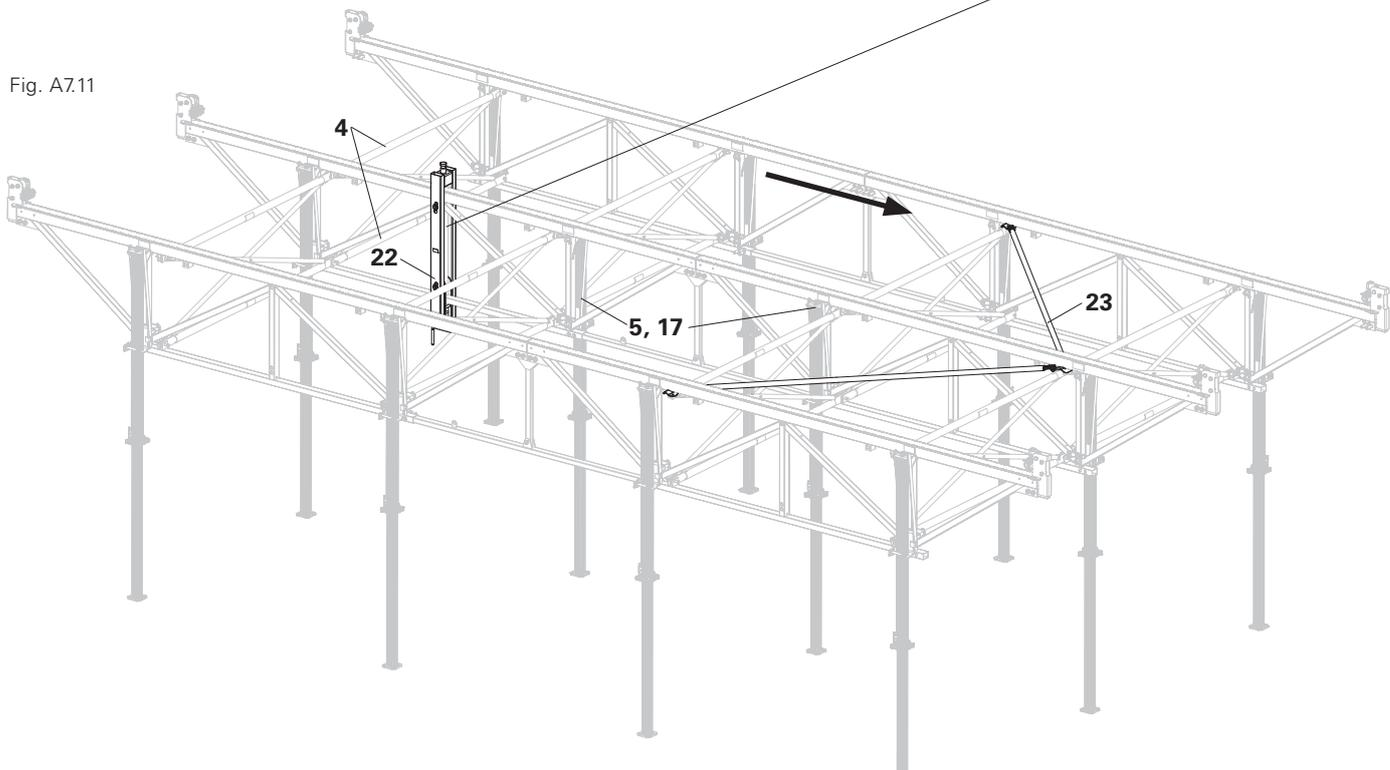

Fig. A7.11
1. Install Horizontal Brace ST (23) additionally and before the Diagonal Brace and Spreader Tube, see below.
2. Install Spreader Tube STST (4) above and below, see A2 Diagonal Brace.
3. Install Lifting Adaptor (22), see Assembly of Lifting Adaptor ST.
4. Install Quick Lowering Device STQ (5) and MULTIPROP props (17) left and right offset on the middle Truss Girder STT, see A2. (Fig. A7.11)